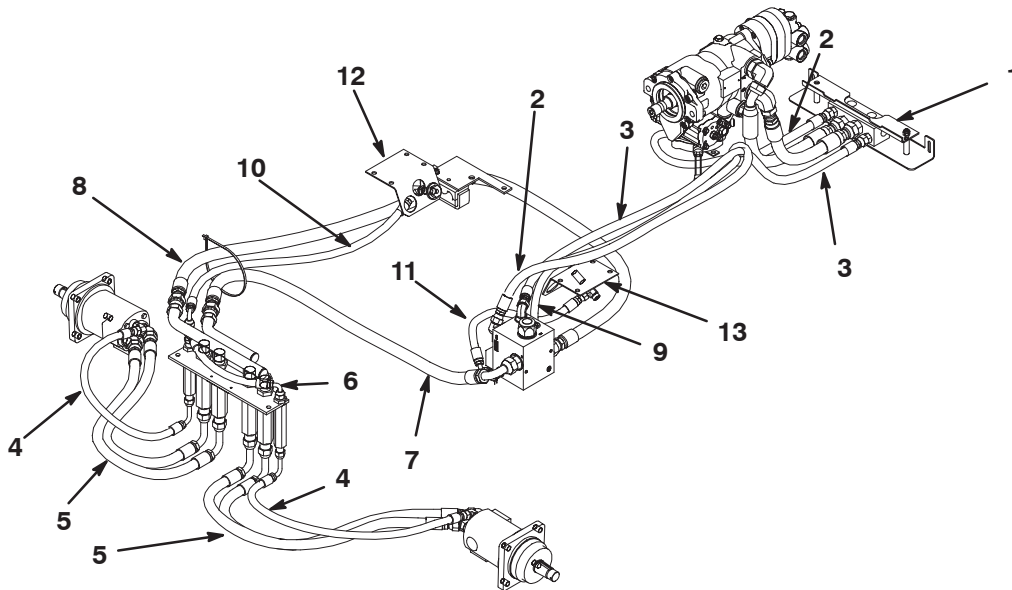
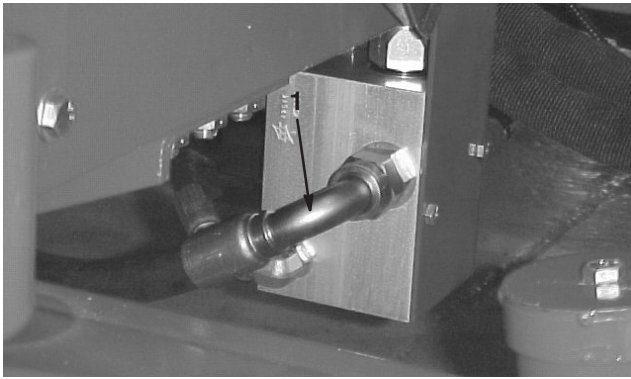

Figure 13
Figure 14
13. Install the remaining hoses, positioning as shown in figure 13. Use figures 14 -17 for reference during installation.